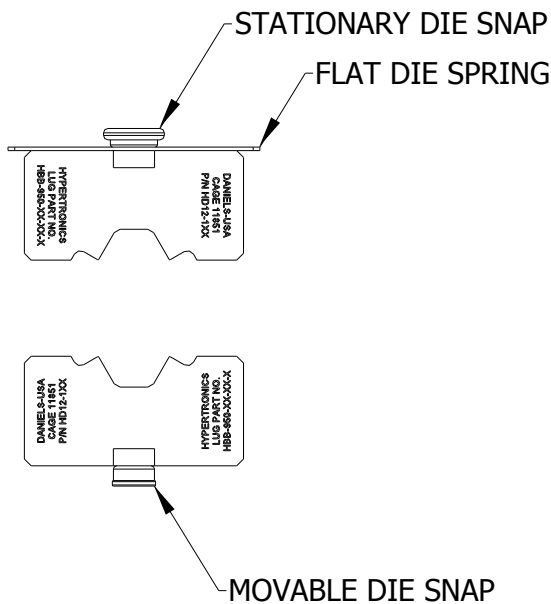

Figure 2
3. Place the movable die half between the die rails. Carefully lower the die and mate the die snap retainer to the snap retainer located in tool's ram. See Figure 2
4. Place the stationary die half between the die rails and lower it so the flat die spring rests on top of the die rail ends. See Figure 2